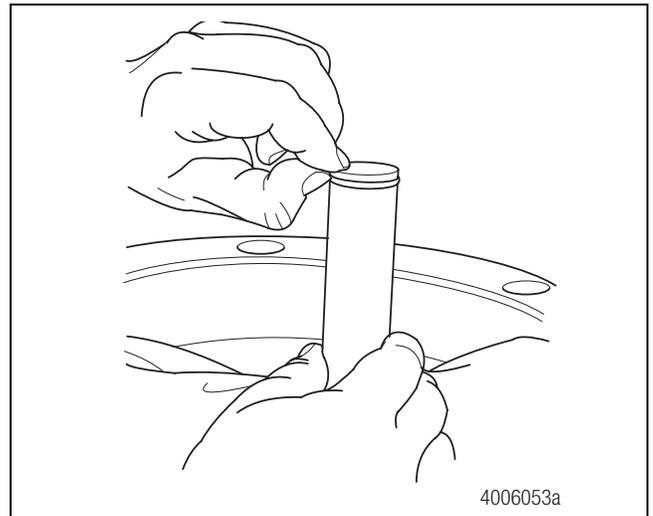

Figure 3.5
3. Remove the O-rings from the planetary pinion shaft. Figure 3.5.